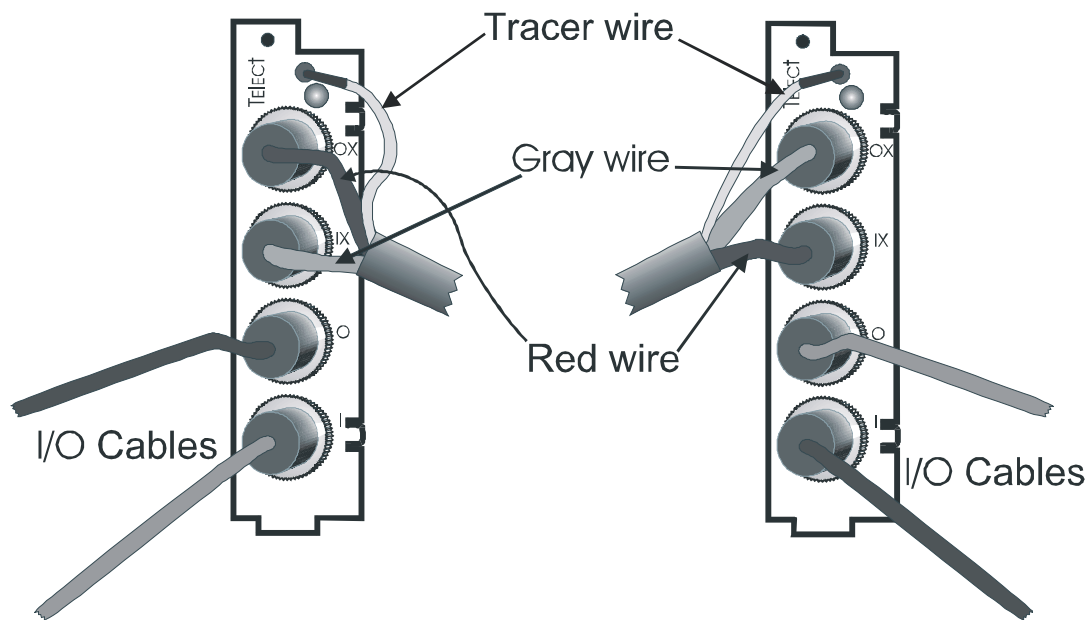

Figure 26 - Rear Cross-Connect Cables with Tracer Wire
10. If applicable, connect tracer wire to the port above the tracer LED, as shown in figure 26.